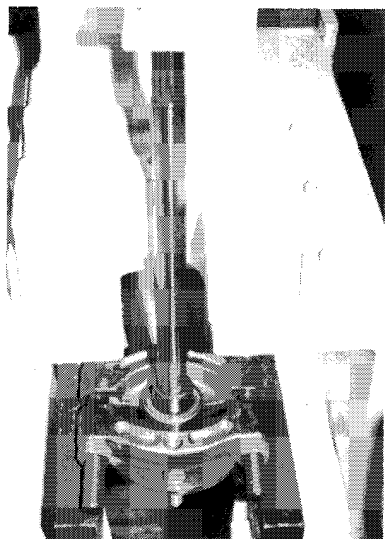

Figure 6-5
2. Press off the bearing (18) and collar (16) together (Figure 6-5).